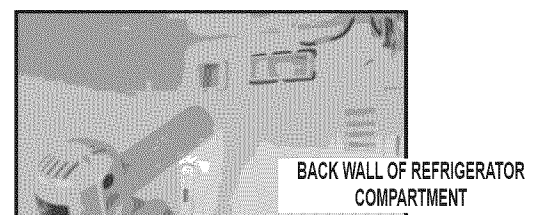

FIGURE 20
**IMPORTANT:** This unit may or may not have a seal on the back wall of the liner. Remove any seals that might be on back wall of liner. Do not remove seal on back of ice maker. Clean and dry area on the back wall where the new seal will go, warm with a heat gun to bring to room temperature. See *Figure 20*.